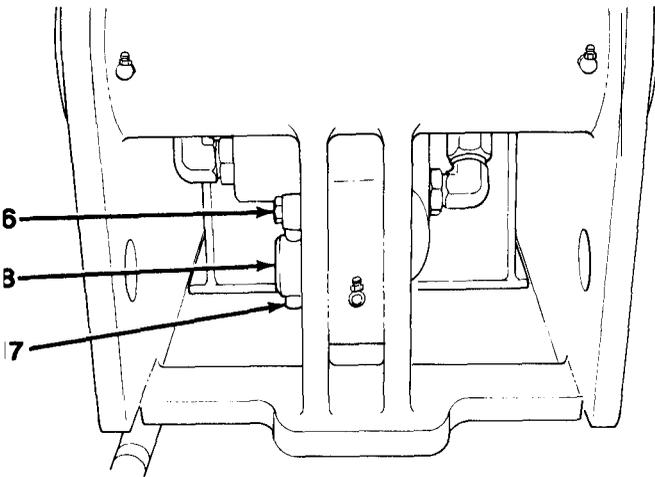

Figure 15-8
3. Remove capscrew (16), rod end (17), and pin (18, Figure 15-8) from upperstructure (base) end of boom extend cylinder.